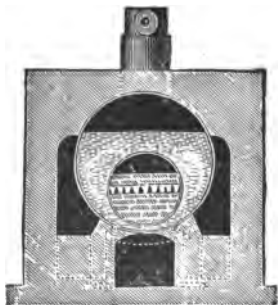

FIG. 5.—CORNISH BOILER.
Q. What is one special advantage of the Cornish boiler ? (Fig. 5.)